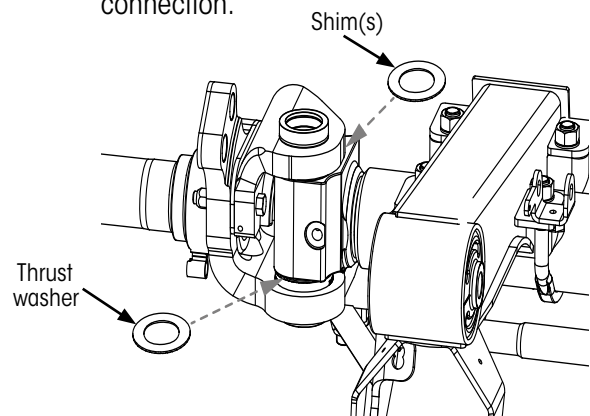

Figure 32: Installing shims (Axle configuration may vary)
- iii. If the reading is greater than 0.030" add shims (Figure 32) between the top of the axle and the bottom of the upper kingpin connection.